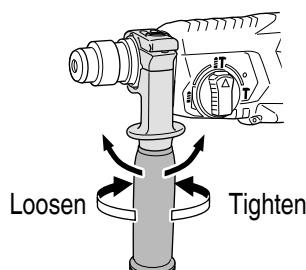

Fig. 6
2. Attaching the side handle (Fig. 6)